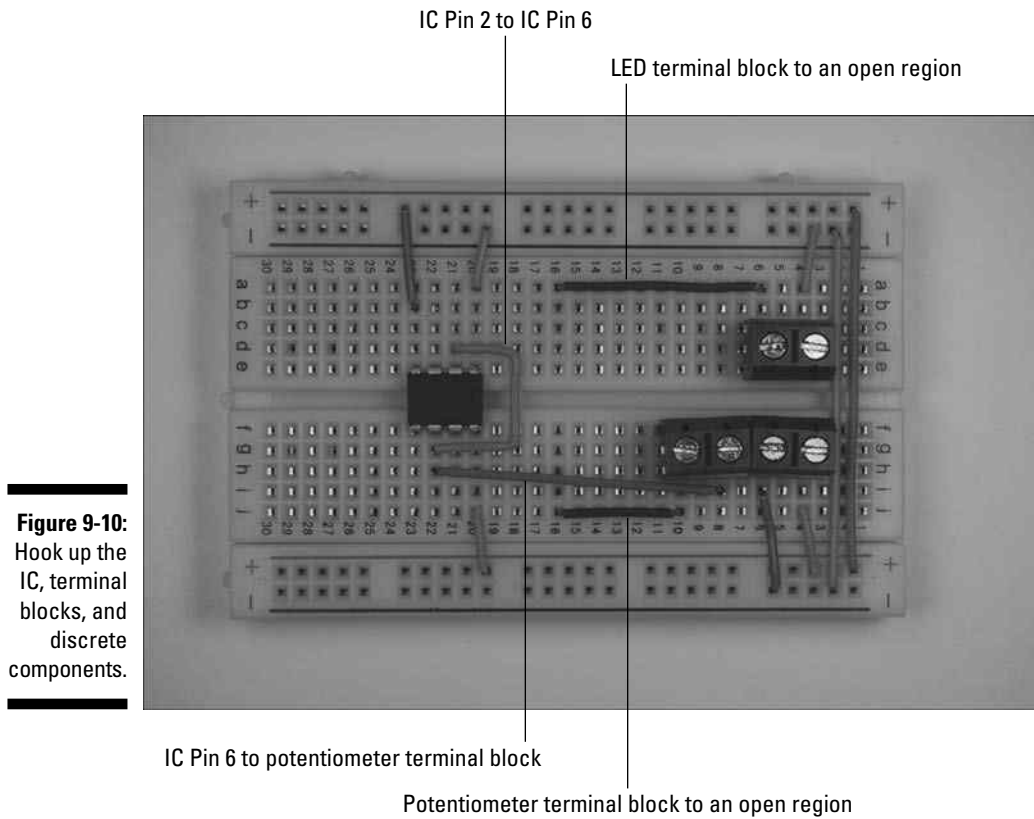

Figure 9-10:
4. **Insert wires to connect the IC, terminal blocks, and discrete components, as shown in Figure 9-10.**